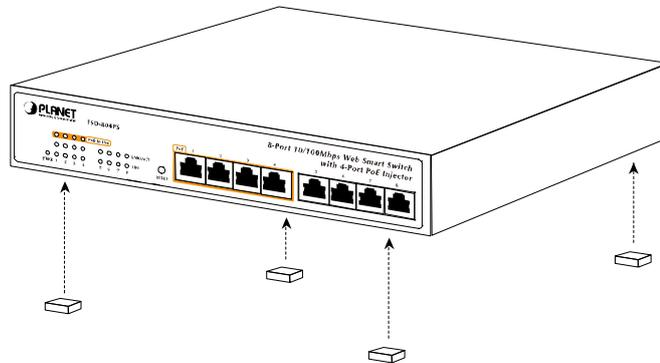

Figure 2-3 Attaching the rubber feet to the Switch
Step1: Attach the rubber feet to the recessed areas on the bottom of the Switch, as shown in Figure 2-3.